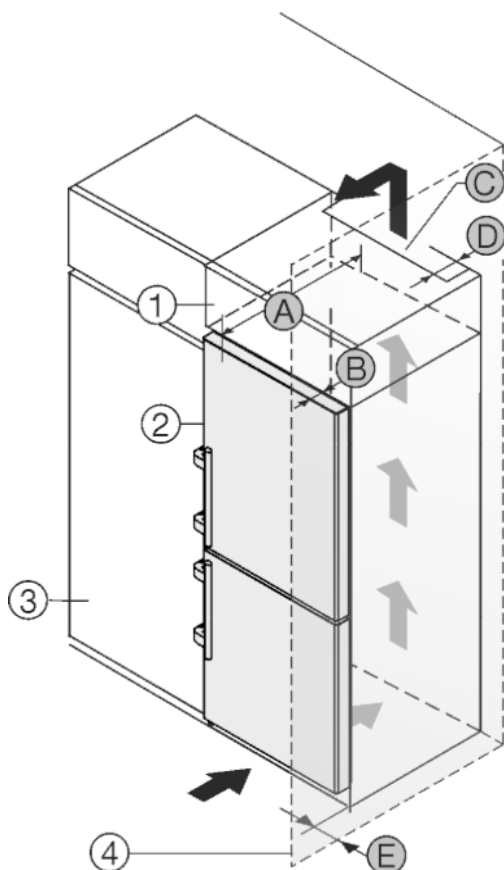

Fig. 12
The appliance can be built into kitchen units. A top cupboard *Fig. 12 (2)* can be added above the appliance in order to bring the appliance *Fig. 12 (1)* up to the height of the fitted kitchen units.
The appliance can be installed right next to the kitchen cabinet *Fig. 12 (3)*. The appliance must stick out by the depth *Fig. 12 (B)* from the front of the cabinet so that the doors can be opened fully. The appliance may protrude further depending on the depth of the kitchen cabinets and whether wall spacers are used.
- There must be a ventilation shaft with the depth *Fig. 12 (D)* at the back of the top cupboard over the entire width of the cupboard.
- The ventilation shaft *Fig. 12 (C)* must be observed under the ceiling.
If the appliance is installed with the hinges next to a wall *Fig. 12 (4)* the distance *Fig. 12 (E)* between the appliance and the wall must be observed. This is how far the handle protrudes when the door is open.